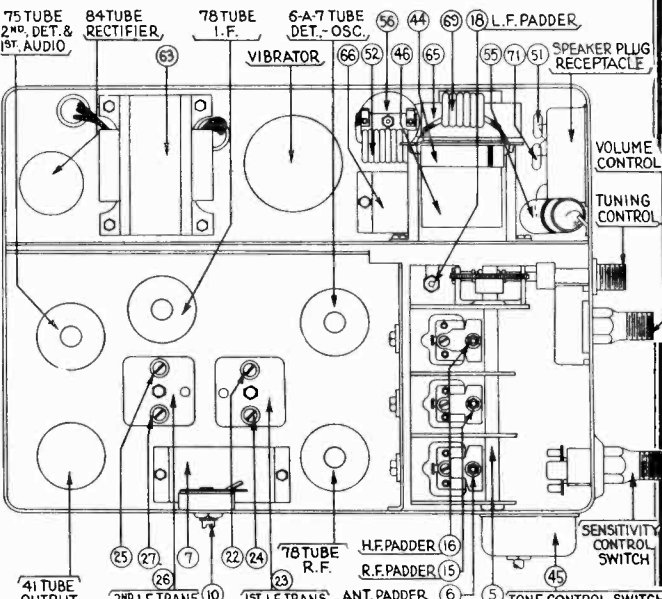

FIGURE 8
Both the primary and the secondary padders are placed side by side in the top of the transformer shield can. The adjusting screws are accessible thru the holes in the top of the shield. (See Figure 8).
Adjust the secondary screw padder 27 on the second I. F. transformer for maximum reading on the output meter. Then adjust the primary screw padder 25 for maximum reading. (See Figure 8 for location of padders).
Connect the generator lead to the grid cap of the 6A7 tube in series with a .1 mfd. condenser. Adjust the secondary screw padder 24 on the first I. F. transformer for maximum reading on the output meter. Then adjust the primary screw padder 22 for maximum reading. (See Figure 8 for location of padders).
Adjust the secondary screw padder ② on the second I. F. transformer for maximum reading on the output meter. Then adjust the primary screw padder ③ for maximum reading. (See Figure 8 for location of padders).
Connect the generator lead to the grid cap of the 6A7 tube in series with a .1 mfd. condenser. Adjust the secondary screw padder ④ on the first I. F. transformer for maximum reading on the output meter. Then adjust the primary screw padder ⑤ for maximum reading. (See Figure 8 for location of padders).